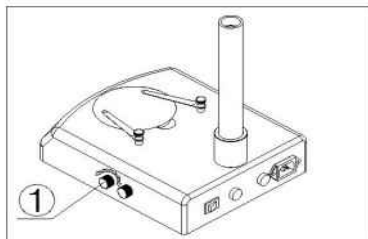

Fig.10
- 1) Turn the adjustable light knob① according to the sign marked on the base, along the clockwise the brightness will be added, otherwise it will be weakened. (Fig.10)